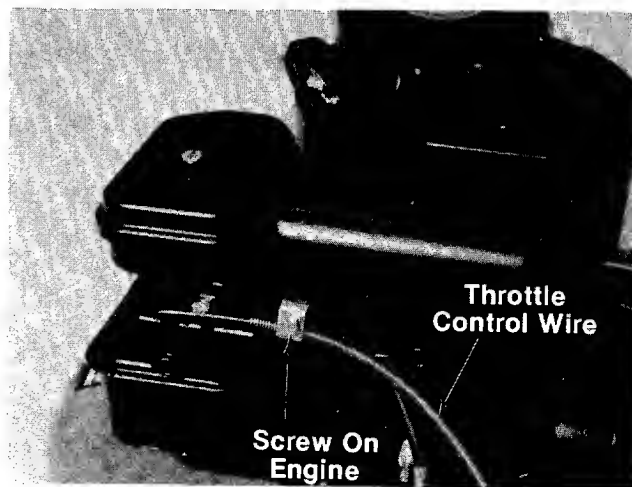

FIGURE 20.
1. Loosen, but do not remove, screw securing throttle control wire assembly at engine. See figure 20.